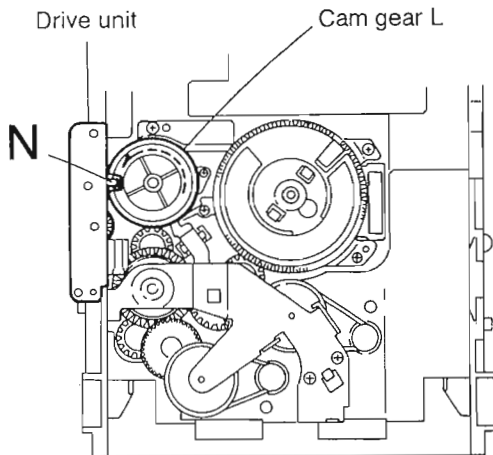

Fig.3-50
■ Removing the cam unit (See Figs.3-50~3-52)
2. While turning the cam gear L, align the pawl "N" position of the drive unit to the notch position (Fig.3-50) on the cam gear L.